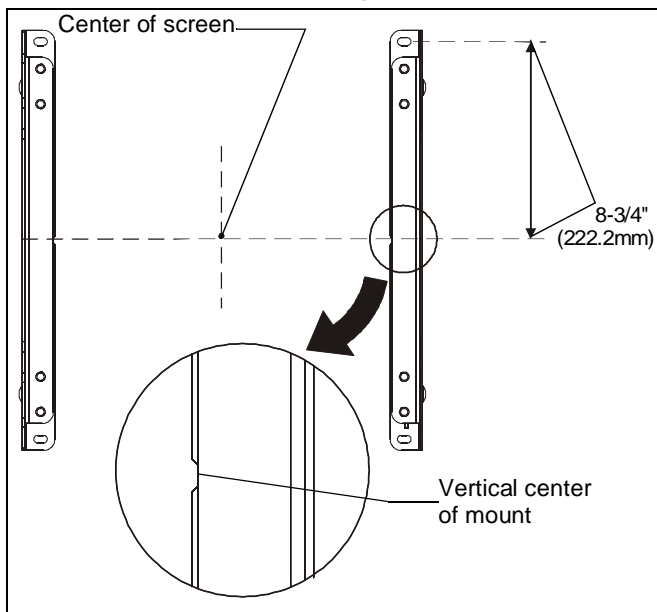

Figure 1
3. Line up the notches on mount (A) with center of screen marking to determine vertical center. (See Figure 1)
2. Line up the notches on bracket (A and B) with center of screen marking to determine vertical center. (See Figure 1)
3. Measure up 8 3/4" (222.2mm) from the center point to mark location of the upper mounting slots. (See Figure 1)